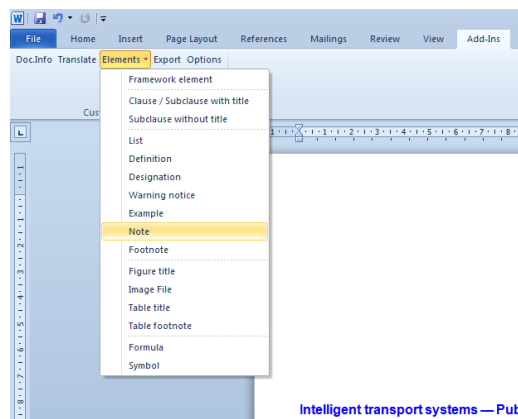

Figure 1 — Formatting elements using the STD-template
Notes, examples, figure titles, table titles, foot notes, etc. shall be formatted using the STD-template. (1) Start by selecting the text that you would like to format (2) then select the required format style in the STD Elements menu as is shown in Figure 1.
- the figures shall be named like: 0001.tif (Figure 1) or a001.tif (Figure A1) etc.;